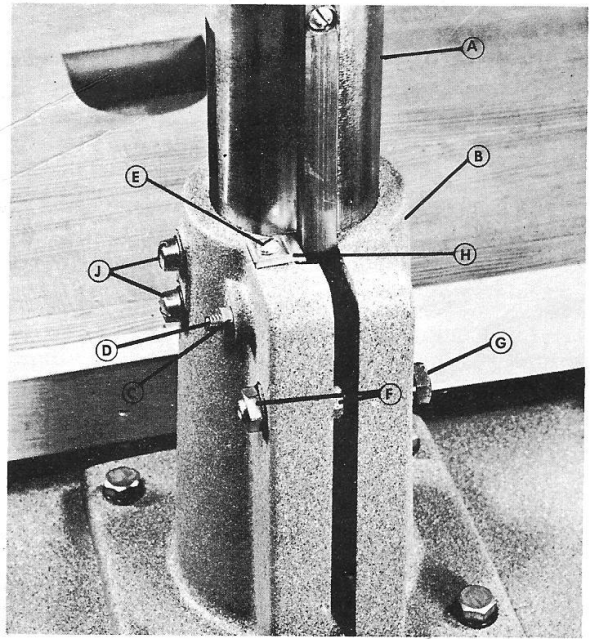

FIGURE 3
Check over-arm for side motion, see Fig. 3. Even after track-arm handle is fully tightened, side motion sometimes develops in over-arm which means that column (A) moves too freely in base (B).